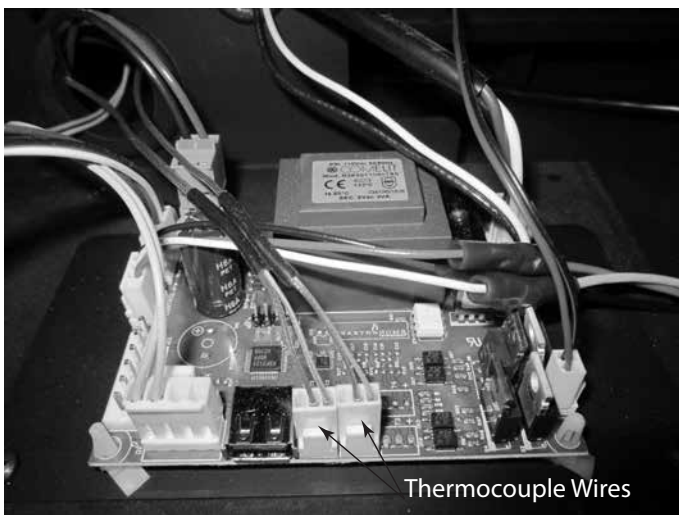

Figure 4.14 Unplug Thermocouple Wires
- Unplug the thermocouple wires from the control board. See Figure 4.14.